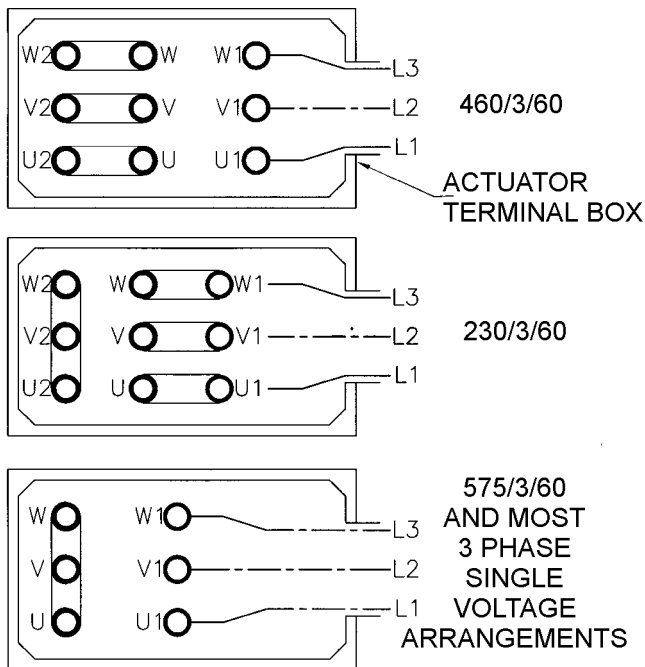

Figure 4 : Electrical Connections
7.3: If the motor was specified for a nominal 460 volts supply, it will be connected with nine terminals and the links arranged as shown in Fig. 4. If at some future date the motor is required to operate from a 230 volts supply, re-arrangement of the links is required as shown.
shown in Fig. 4. The winding will not be capable of re-connection for any other voltage.